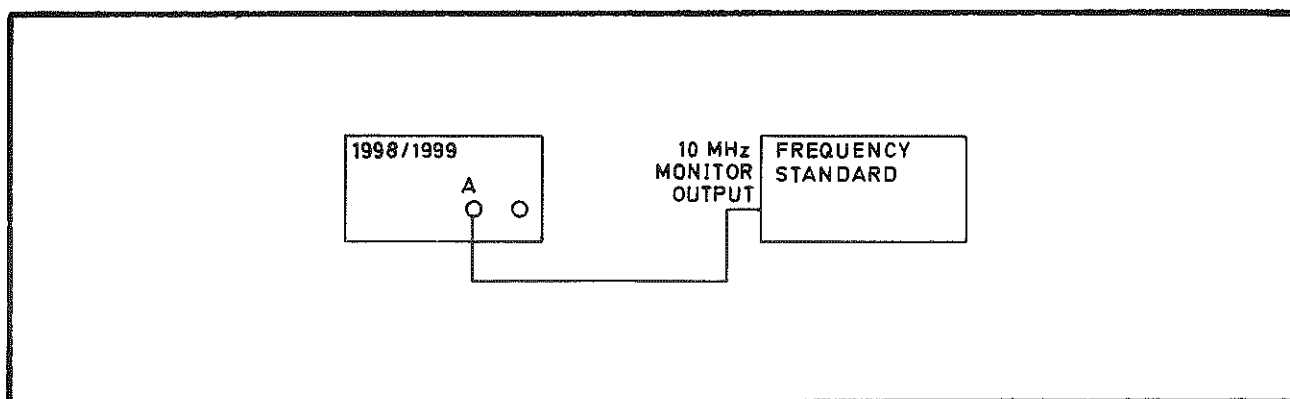

Fig 7.17 Connections for Internal Frequency Standard Adjustment
- (3) Press **NULL**.
- (4) Disconnect the signal from the A channel input.
- (5) Connect the frequency standard as shown in Fig 7.17.
- (6) Adjust the internal frequency standard, via the aperture in the rear panel, to be as near to 10 MHz as possible. The display limits are shown in Table 7.3.
- (7) Switch off the 1998/1999. Switch off and disconnect the test equipment.